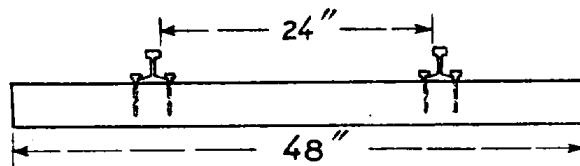
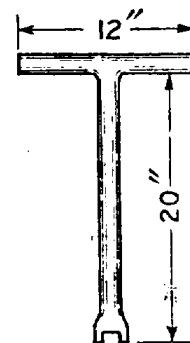

FIG. 6.
FIG. 7.
11. If the track is laid on **wooden ties**, railroad spikes will ordinarily be used to fasten the rail. However, circumstances may demand that the railroad be laid without noise, in which case **lag bolts** can be used instead of spikes (fig. 6). A wrench for lag bolts is shown in fig. 7.